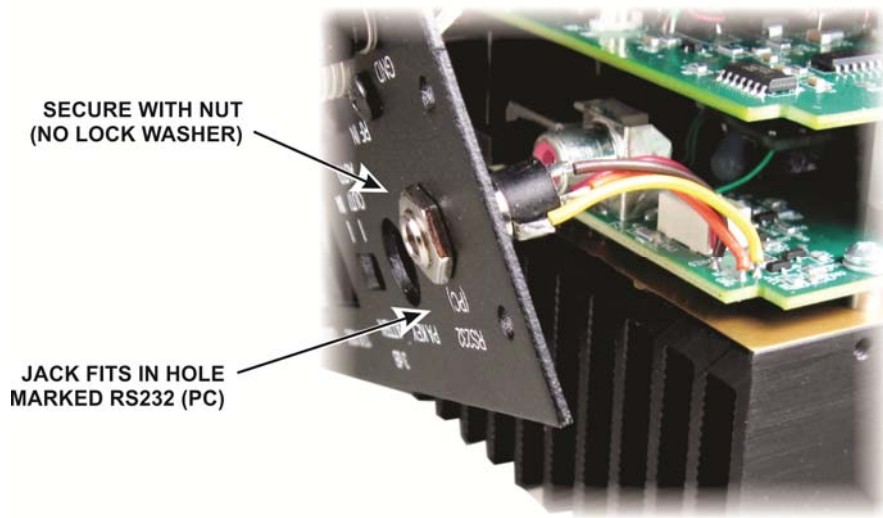

Figure 15. Mounting the RS232 Jack in the Rear Panel.
Pass the small jack through the hole marked RS232 (PC) on the rear panel and secure it with the hex nut (see Figure 15).